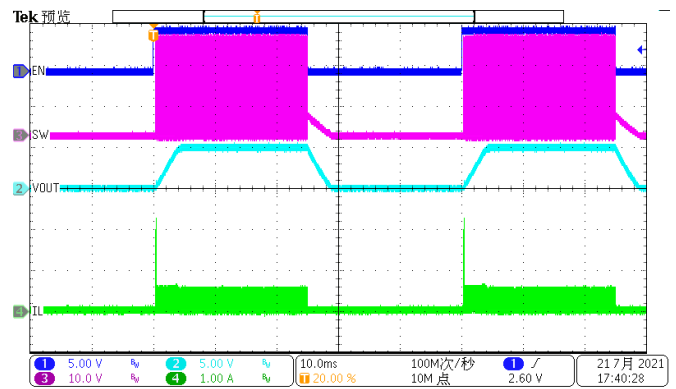

Figure 15. EN Toggle, IOU=0.1A
The SCT2330C features external programmable output voltage by using a resistor divider network R1 and R2 as shown in the typical application circuit Figure15. Use equation (11) to calculate the resistor divider values.